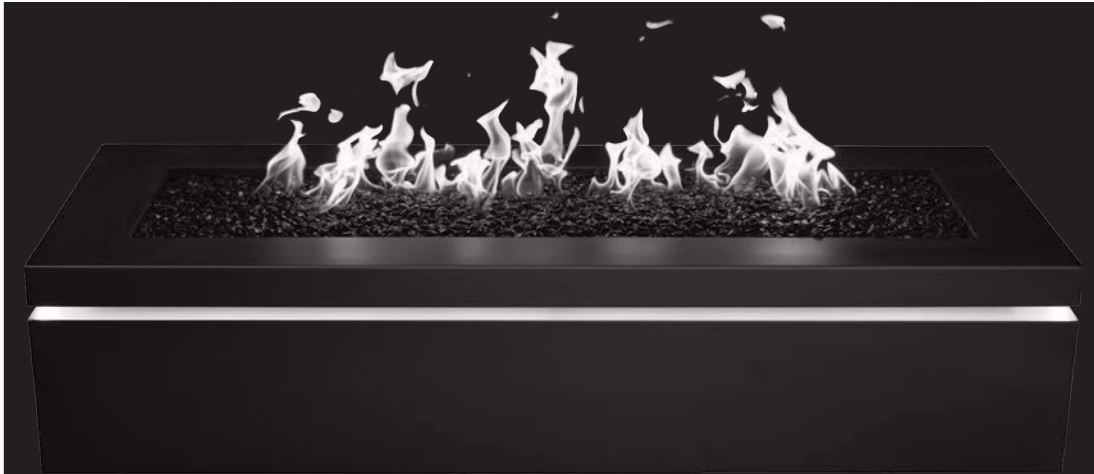

Figure 14: Halo 60LS24
11. Start up the fire pit using the operating instructions in the section below, and confirm that the flame looks similar to Figure 14.